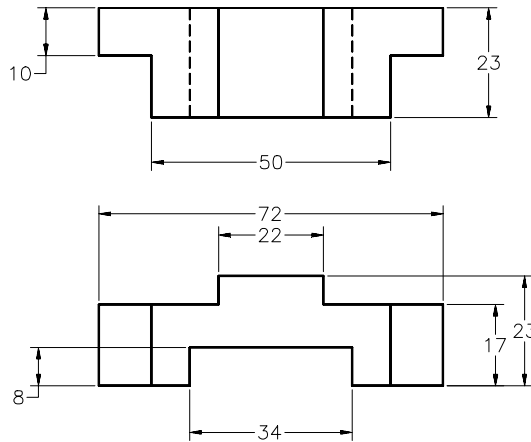

Figure 12-24 Drawing for Example 2
In this example, you will create a drawing in the model space and then use the paper space to plot the drawing. The drawing to be used is shown in Figure 12-24.
1. Increase the limits to 75, 75 and then draw the sketch shown in Figure 12-24.